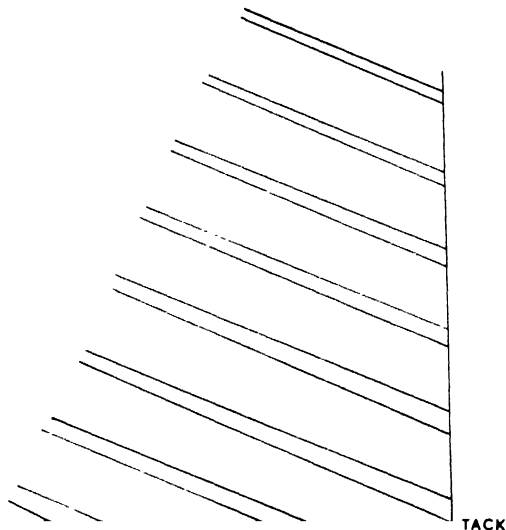

FIG. 18. The appearance of broad seams at the tack of a Bermudian mainsail.
*Note on broad-seaming* (Fig. 18). The broad-seam is in-